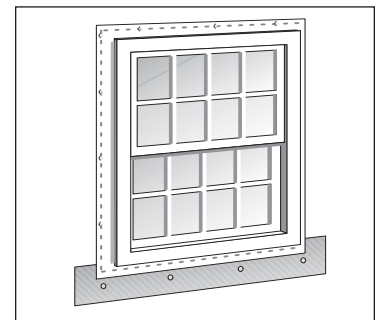

Figure 6
- With sill flashing in place, fasten the window at the sill through the nailing slots (fig. 6).